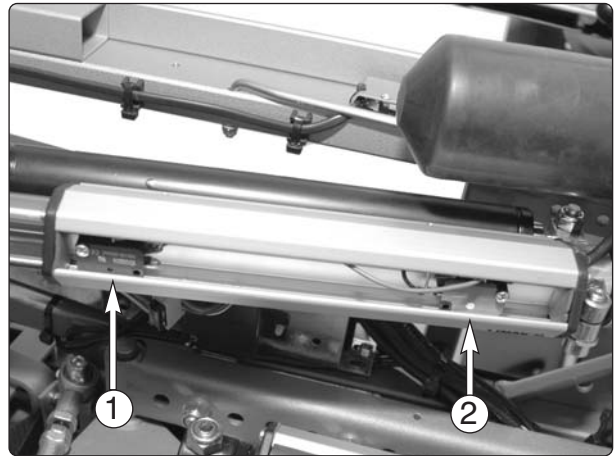
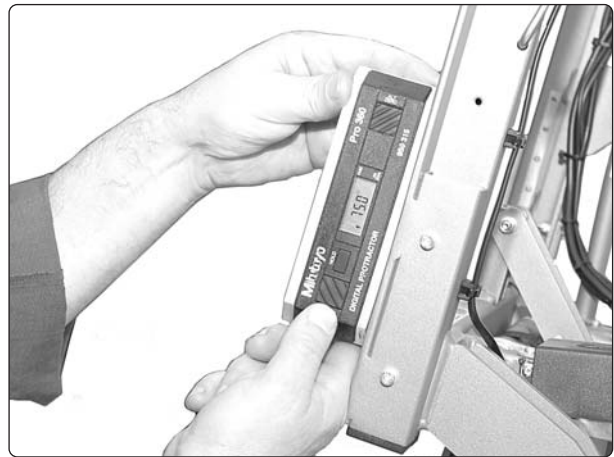

Fig. 81. Lower and upper end position switches.
Fig. 82. Raising must stop at 75°.
5. Remove the rubber protection that covers the limit switch kit. Loosen the screw on the lower end position switch (Fig. 81:1) and adjust the switch so that the stand function actuator extends a further 2 mm. This adjustment must be sufficient to keep the frame prestressed. Then tighten the screw to lock the switch in the new position.
6. Loosen the screw on the upper end position switch (Fig. 81:2). Adjust the position of the switch until the raising stops at 75°, see fig. 82.